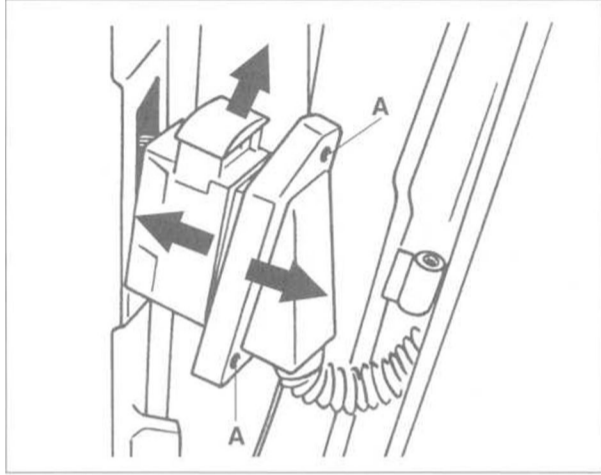

Fig. 3. Door harness connector being removed from A-pillar. Remove mounting screws at **A**, then separate connector by pulling up lock (**top arrow**).
3. Unbolt main harness connector at body A-pillar and separate connector. See Fig. 3.